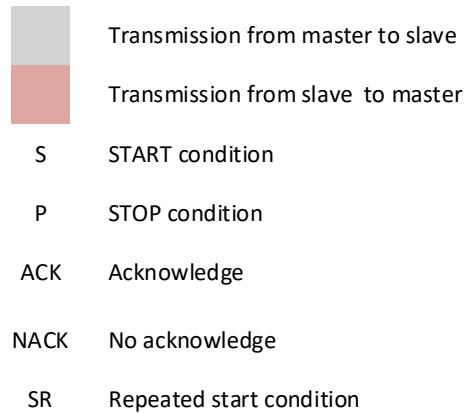

Figure 9: Write and read operations of the sensor
After receiving the register address, the slave sends an Acknowledgement (ACK). If the master is still writing to the slave (R/W bit = 0), it will transmit the data to slave in the same direction. If the master wants to read from the addressed register (R/W bit =1), a repeated start (SR) condition must be transmitted to the slave. Master acknowledges the slave after receiving each data byte. If the master no longer wants to receive further data from the slave, it would send No-Acknowledge (NACK). Afterwards, master can send a STOP condition to terminate the data transfer. Figure 9 shows the writing and reading procedures between the master and the slave device (sensor).